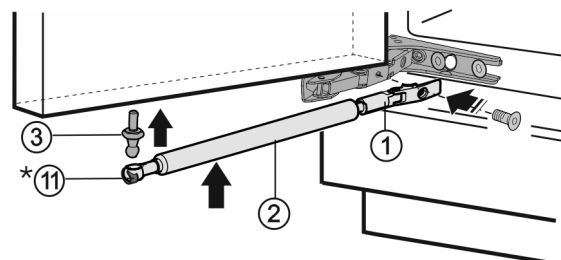

Fig. 11
- Screw the Fig. 11 (3) ball stud securely into the new fastening hole **by applying a torque of 3 lb/ft (4 Nm)** (Torx® 25).
- Tightly screw on the retainer Fig. 11 (1) **by applying a torque of at least 2.5 lb-ft (3 Nm)**.
- Attach the soft stop mechanism Fig. 11 (2) onto the ball stud.